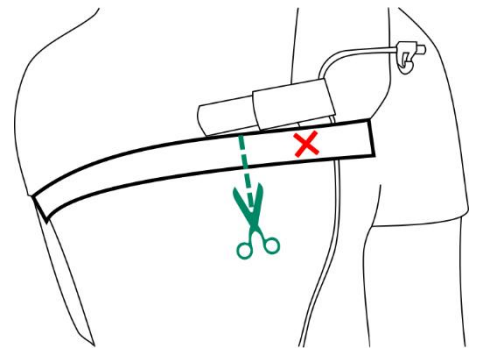

Figure 3
4. Wrap the torso straps around the body (upper strap just below the armpit, lower strap just above the hips). At the back of the torso, cut the straps to the desired length (Fig 3).